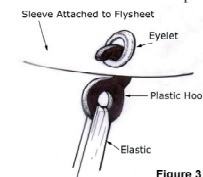

Figure 3
9. Working systematically, starting with the uppermost colour coded hook that will correspond with the correct eyelet, hook the inner to the eyelets located on fabric strips sewn to the inside of the flysheet (see figure 3).